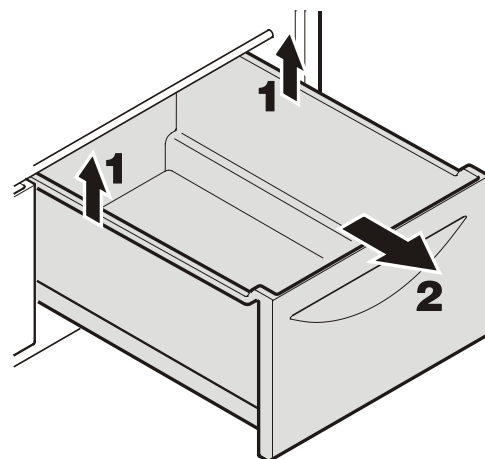

Figure 19
Pull the drawer straight out, grip at the back and lift out - *Figure 19*.
- Remove vegetable drawers as shown in **Figure 19**.